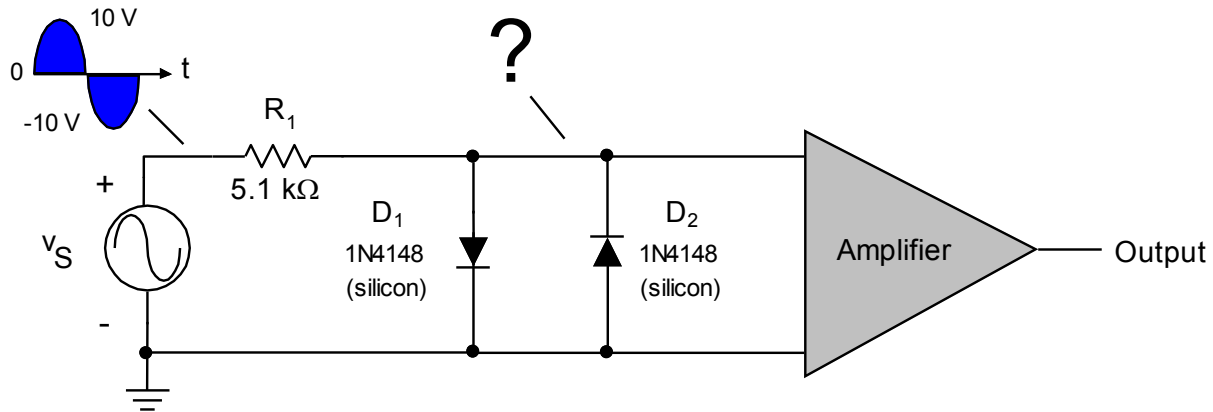

Figure 3-55.
- 3-3. The circuit (R_I and the two diodes) in Fig. 3-55 is called a (an) _____.
- 3-4. Sketch the waveform that will appear across the amplifier's input in Fig. 3-55. Be sure to label the positive and negative peak values.
- 3-5. The input voltage has been reduced to 0.25 V peak. Sketch the waveform that will appear across the amplifier's input in Fig. 3-55. Be sure to label the positive and negative peak values.